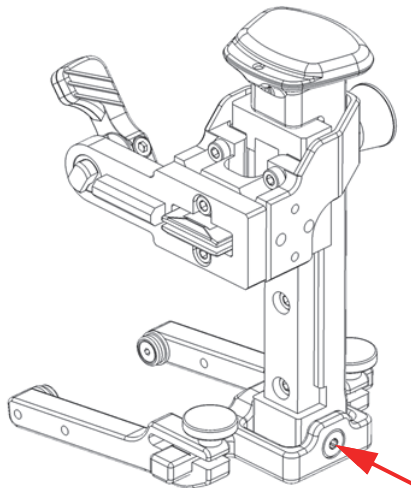

Figure 2-25 Putting the screw back in
7. Reinstall the screw into the yoke pivoting beam (Figure 2-25 on page 54).